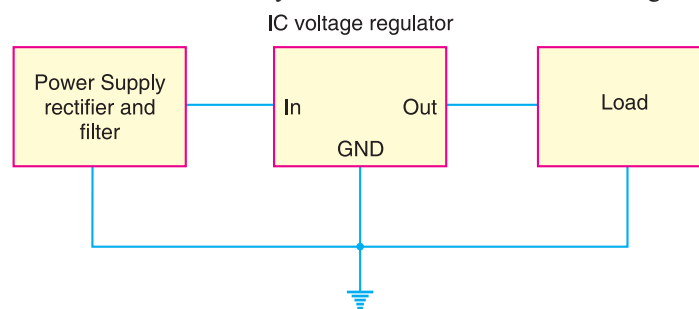

Fig. 17.25
We can also use integrated circuits (IC) to produce voltage regulators. One advantage of IC voltage regulators is that properties like thermal compensation, short circuit protection and surge protection can be built into the device. Most of the commonly used IC voltage regulators are three-terminal devices. Fig. 17.25 shows the schematic symbol for a three-terminal IC voltage regulator.